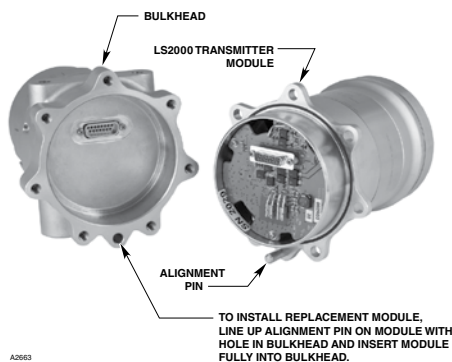
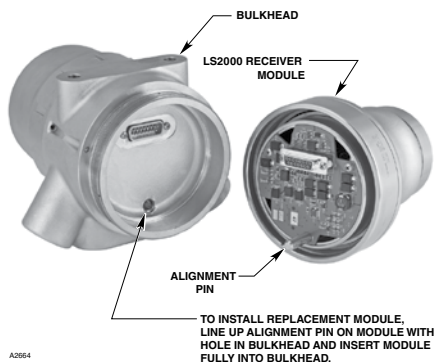

Figure 30—Transmitter Module Removed from Bulkhead
Figure 31—Receiver Module Removed from Bulkhead
5. Line up the pin on the replacement module with the hole in the bulkhead and insert the module straight into the bulkhead. See Figure 30 for the transmitter and Figure 31 for the receiver.